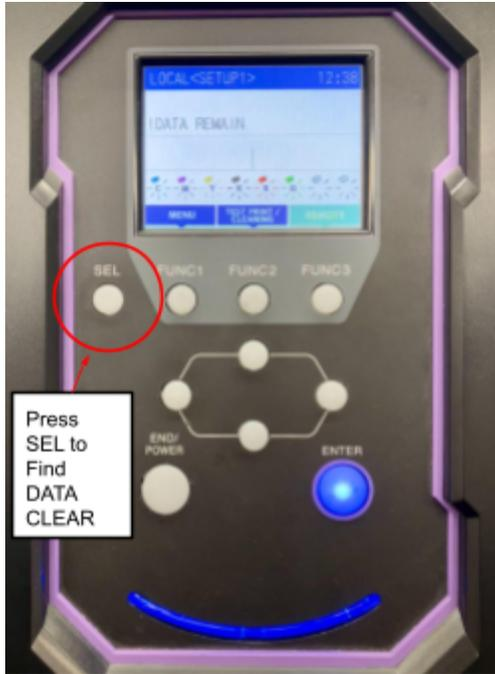

Fig 4. Finding DATA CLEAR
- To remove the **!DATA REMAIN** message, press the SEL button to find the **DATA CLEAR** menu (Fig 4).